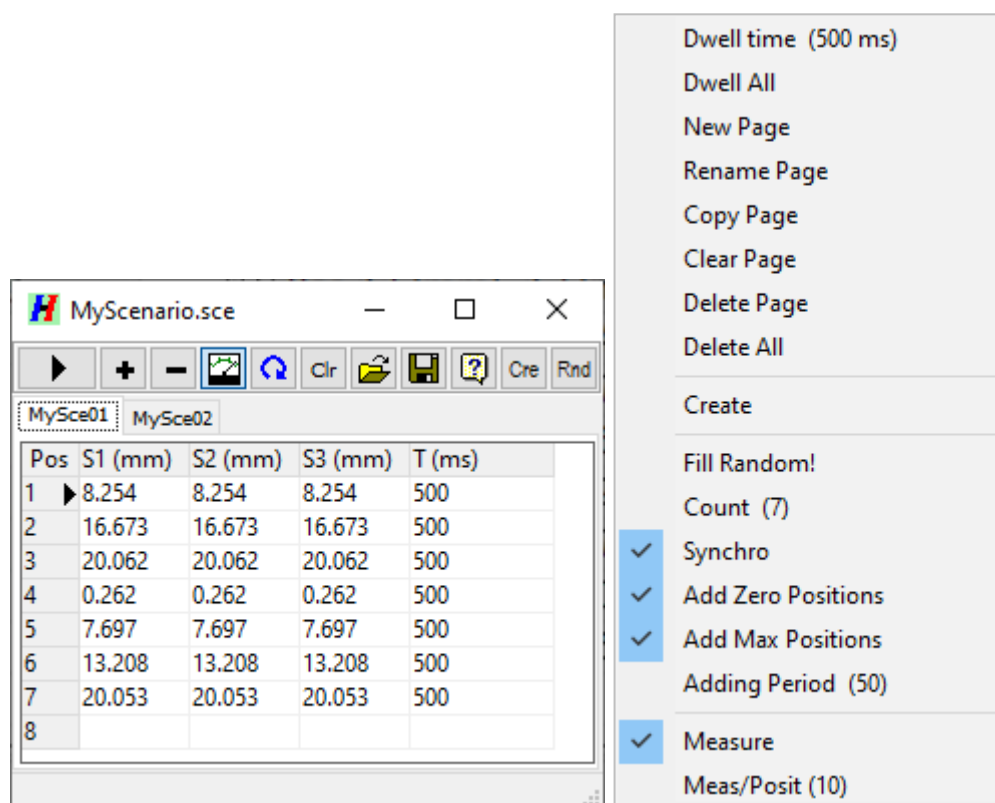

Figure 38. Stubs Motion Scenario window (left) and its context menu (right). **Cre** button is visible only in HoSim Homer simulation program.
The **Stubs Motion Scenario** window (Figure 38) enables the user to:
- Click the row at its leftmost gray cell (in **Pos** column). An arrowhead appears in this cell (e.g., row 3 is selected in Figure 38).
- Click **Add** button . The actual positions will be copied to the first row of the table with a default dwell time shown in the rightmost column. To change default dwell time, right-click the table to invoke a context menu (Figure 38 right), then click the **Dwell Time** menu item.
- Right-click the table. The context menu pops up (Figure 38 right).